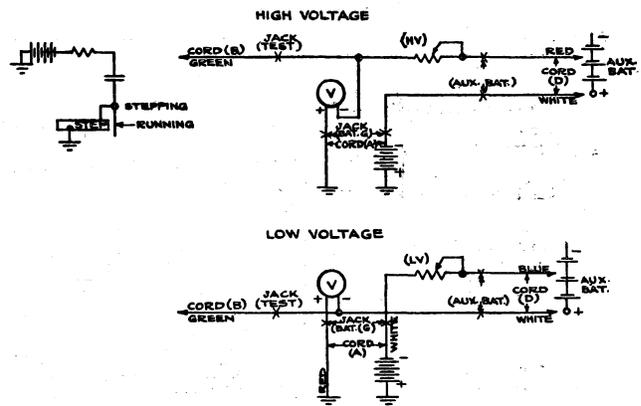

Fig. 4
4.4 Fig. 4 illustrates the battery application of the test set.